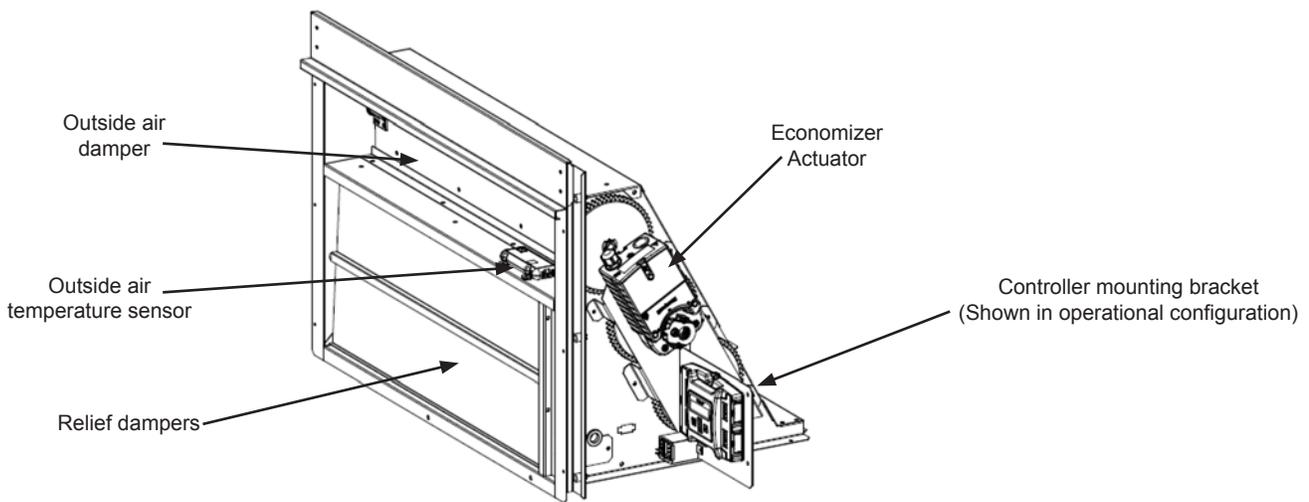

Figure 4
3. Remove two screws that hold the controller mounting bracket and turn controller mounting bracket from its shipping position 90° so the display faces the installer once economizer is installed in unit. See Figure 4.